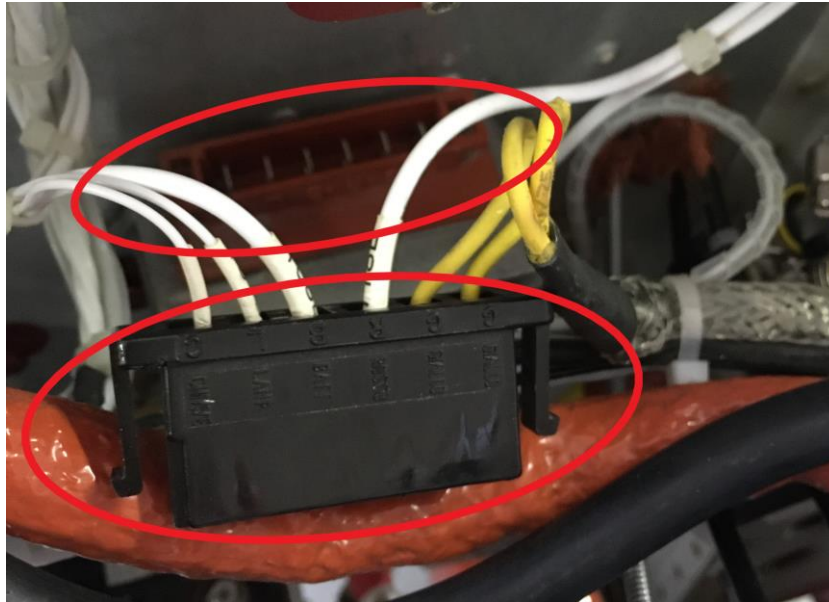

Fig. 5: Terminal block
- 4) Squeeze the locking paws on the sides of the terminal block and pull it out. (See Fig. 5)